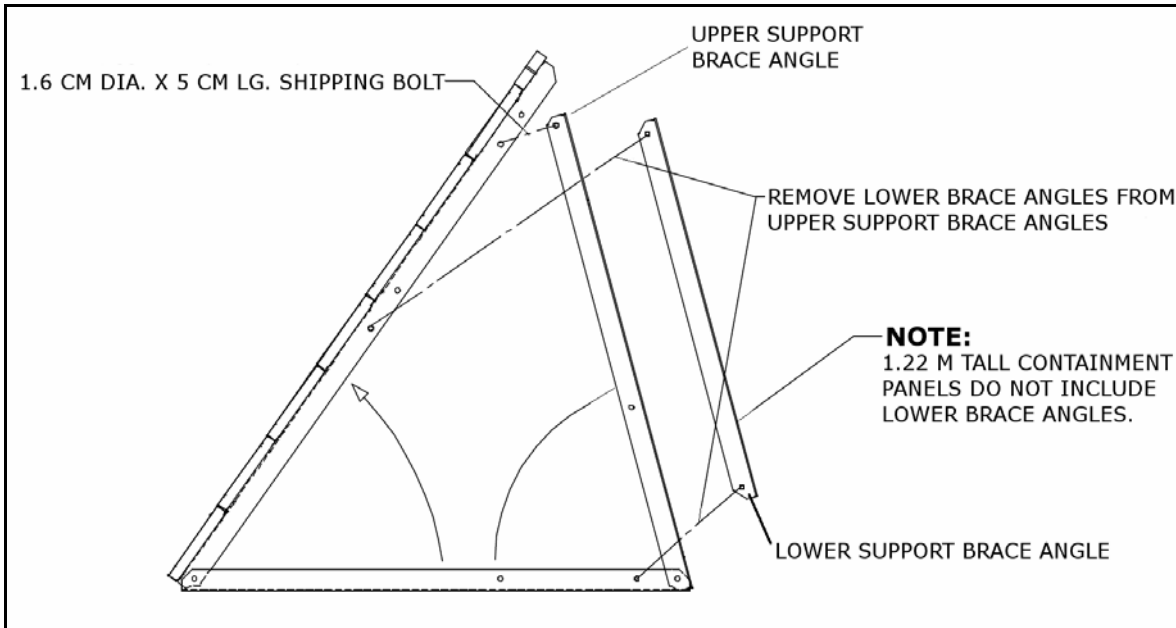

Figure 3.3 Partially Assembled Containment Panel
3. Connect the upper support brace angles to the wall support angle with the 1.6 cm x 5 cm large shipping bolt by inserting it in the second hole from the top of the upper support angle as shown in Figure 3.3.